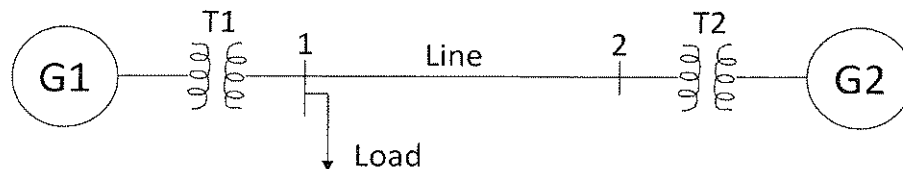

Fig. Q3.2
- b. The single-line diagram of a three-phase system is shown in Fig. Q3.2 where all impedances are in per unit on a 100-MVA base.